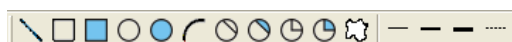

Figure 2-20 Geometric object toolbar
- **Geometric object toolbar:** It provides buttons used for drawing simple figures. Users can click a geometric figure they need on the toolbar by intuition, as shown in Figure 2-20.